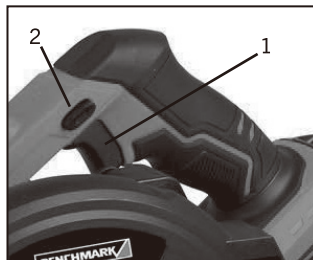

Fig. 5
1. To turn the saw ON, press in the lock-off switch (2) from either the right or left side, then depress and hold in the trigger switch (1) (Fig. 5).